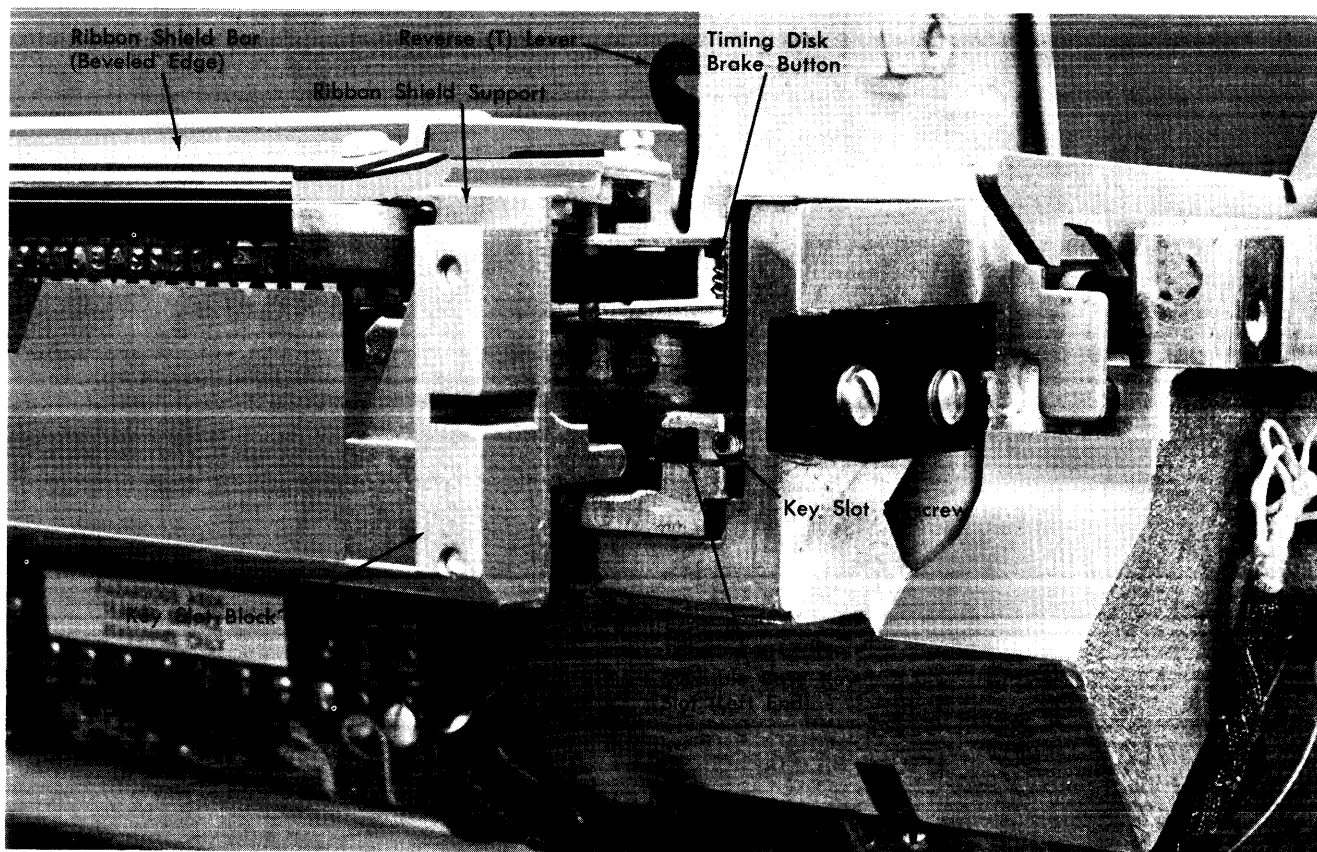

Figure 36. Ribbon Shield (Left End)
- b. That the key on the left end of the ribbon shield enters freely into the slot in the left end of the movable base (Figure 36).
2. Adjust the indicator bar on top of the ribbon shield so that its beveled-edge position (see Figure 36) varies no more than plus or minus .005" to the cartridge edge.